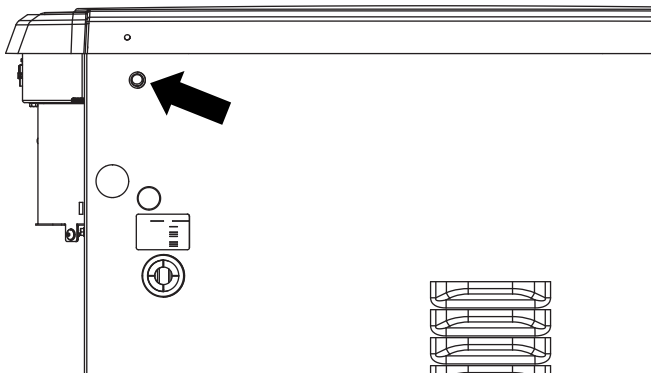

Figure 5 - Switch Installed on Rear Panel
3. See Figure 5. Insert switch (supplied) into hole and apply a small amount of silicone sealant around perimeter for added weather resistance.